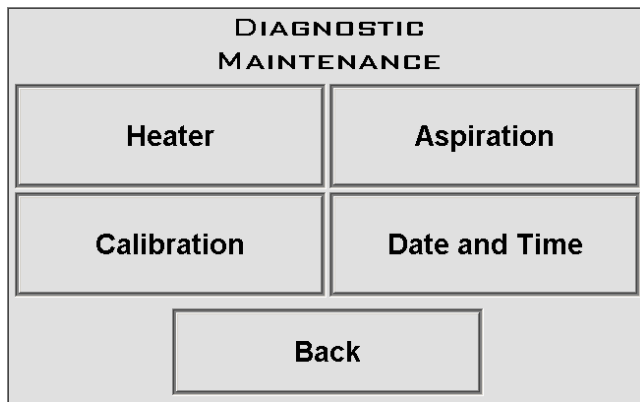

Figure 6: Diagnostic Maintenance Panel
- In the **Diagnostic Maintenance Panel** (See Figure 6 below) select **Calibration**. This will open the calibration panel.